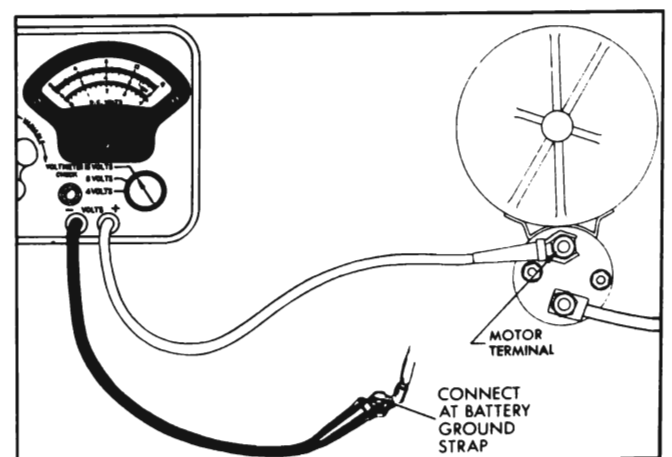

Figure 10-22—Cranking Voltage Test Connections
3. Connect voltmeter positive (+) lead to the motor terminal on solenoid switch; connect voltmeter negative (-) lead to ground on engine. See Figure 10-22.